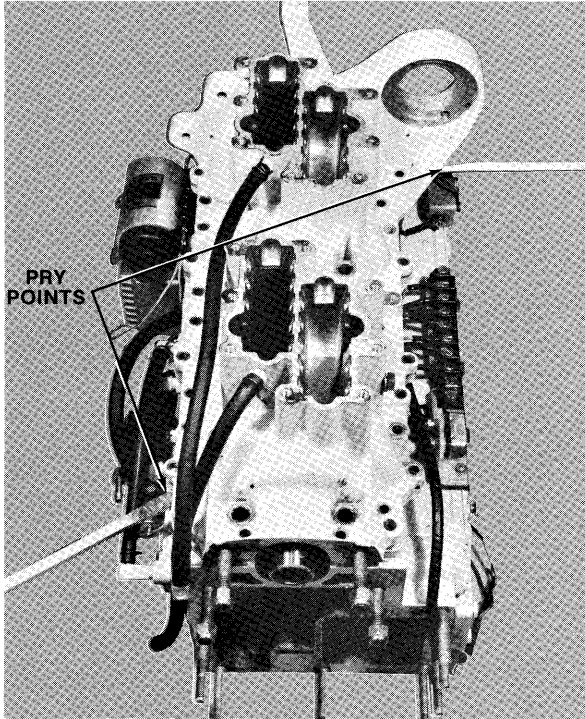

Figure 5—Prying Crankcase Cover
- F. Pry crankcase cover from cylinder using large screwdriver at each pry point as shown in figure 5.